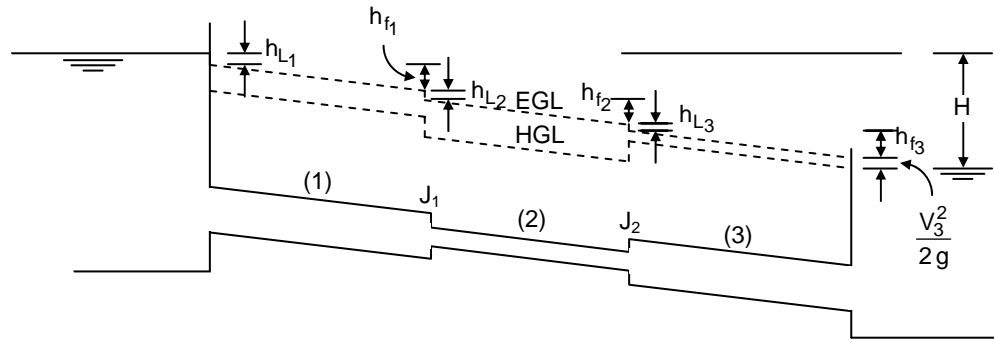

Figure 6.2
Let us now consider the case when the pipes joining the two reservoirs are connected in series. Figure 6.2 shows a system of three pipes in series. Total loss of head (H) is given by